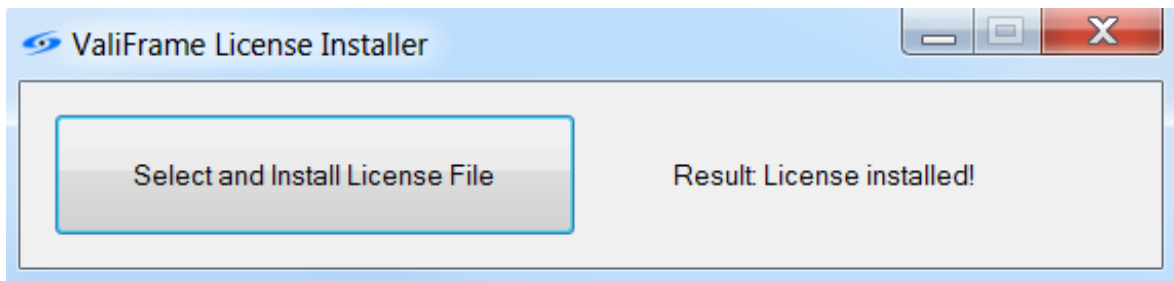

Figure 5-2: License Installation Message
7. In the **Valiframe License Installer** dialog box, view the message “Result: License Installed!” as shown in Figure 5-2 to ascertain successful installation of the software license.